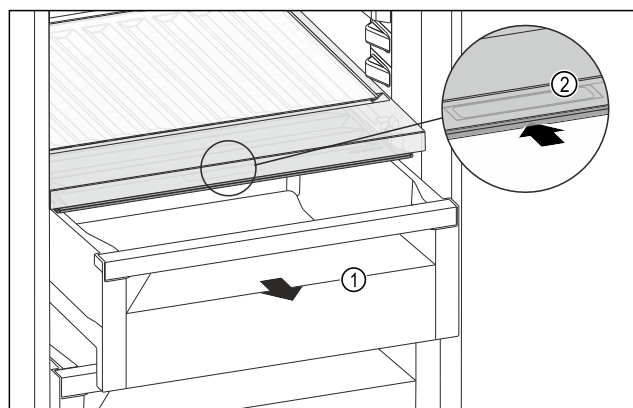

Fig. 157
- Pull out the drawer Fig. 157 (1).
- Grasp the recessed grip Fig. 157 (2) on the compartment lid and push the compartment lid backwards at the same time.